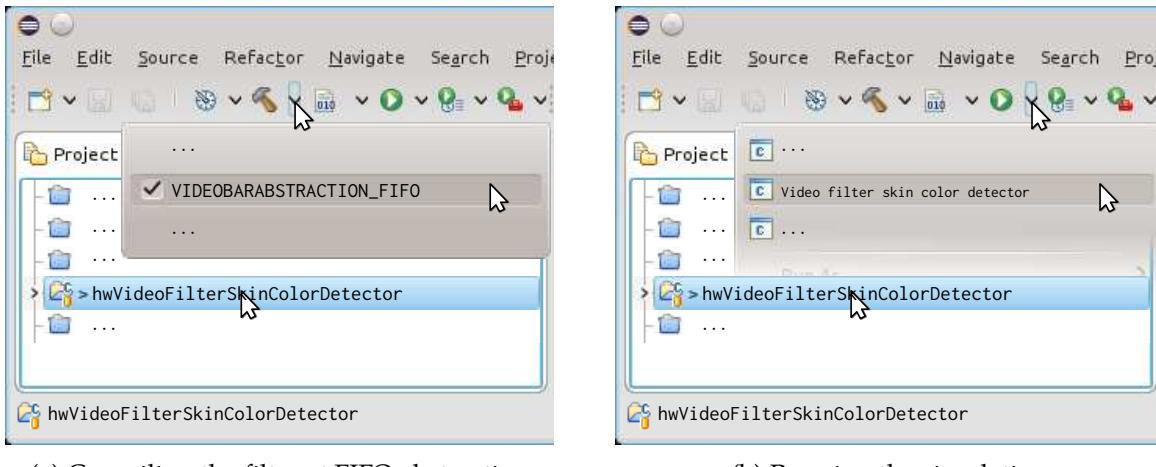

Figure 35: Check the functionality of your skin color filter at FIFO level.
- Change the pixelThrd process to detect skin color pixels. Mark these pixels by setting the skin color bit and turning the pixel bright red. Check that you have correctly realized skin color detection (cf. Figure 35 to run and Figure 34a for the expected result).